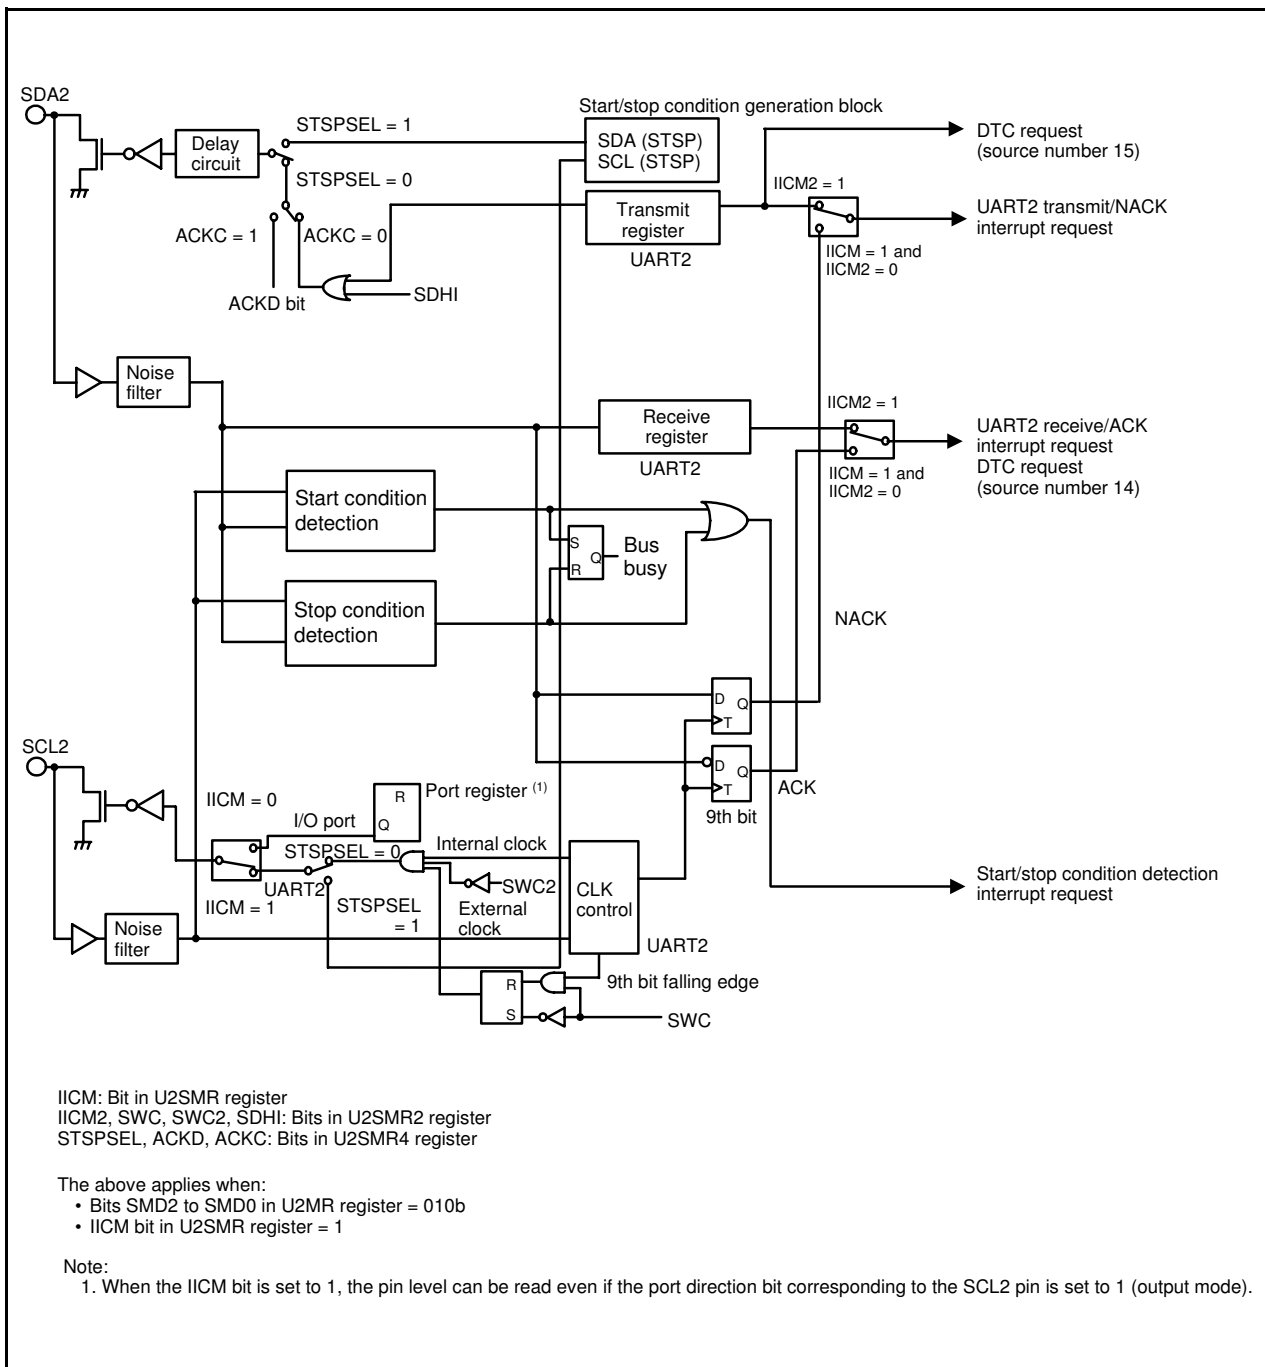
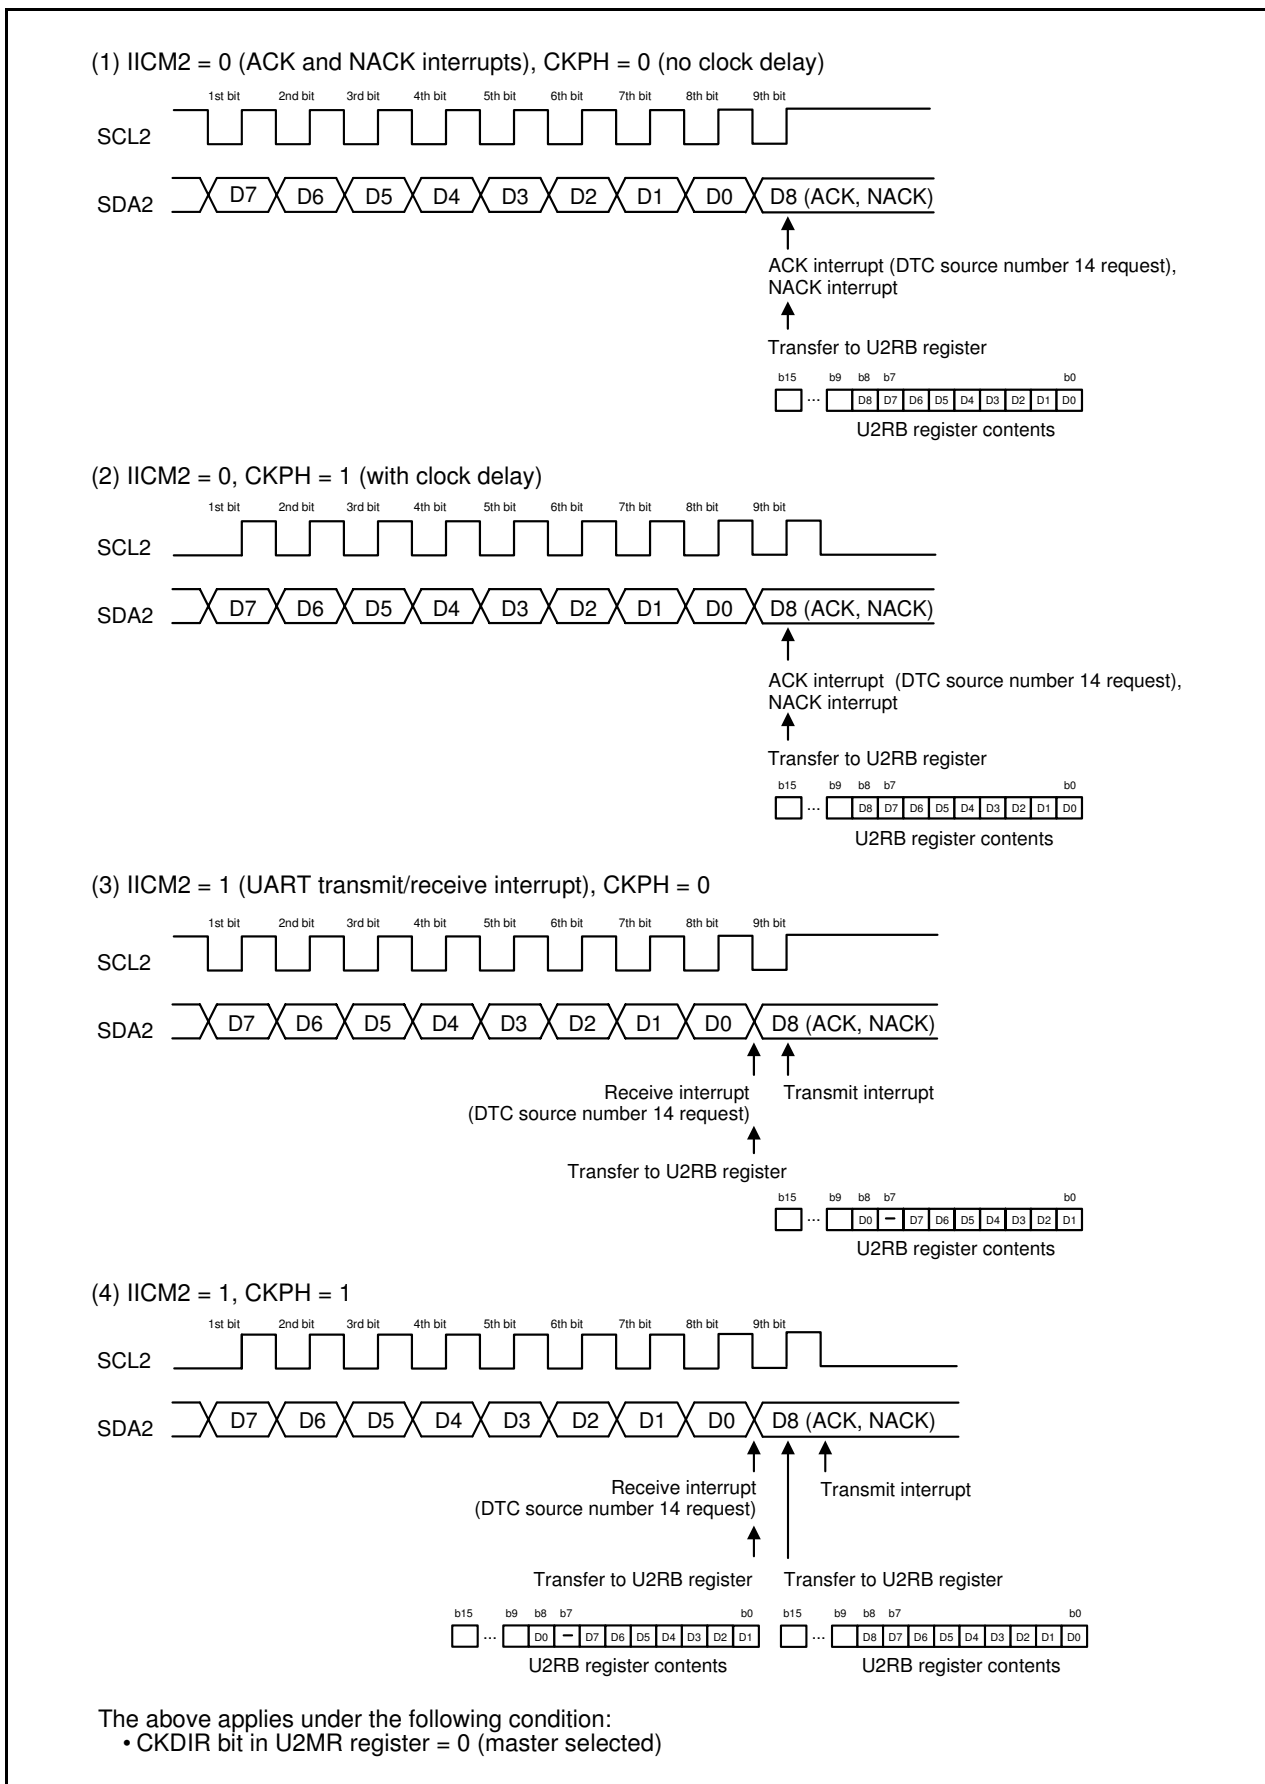

Figure 24.13 Block Diagram of I2C Mode
Figure 24.14 Transfer to U2RB Register and Interrupt Timing
I2C mode is provided for use as a simplified I2C interface compatible mode. Table 24.9 lists the I2C Mode Specifications. Tables 24.10 and 24.11 list the registers used in I2C mode and the settings. Table 24.12 lists the I2C Mode Functions, Figure 24.13 shows a Block Diagram of I2C Mode, and Figure 24.14 shows the Transfer to U2RB Register and Interrupt Timing.
- Refer to **Figure 24.14 Transfer to U2RB Register and Interrupt Timing**.
The transfer clock is used to transmit and receive data as is shown in **Figure 24.14 Transfer to U2RB Register and Interrupt Timing**.